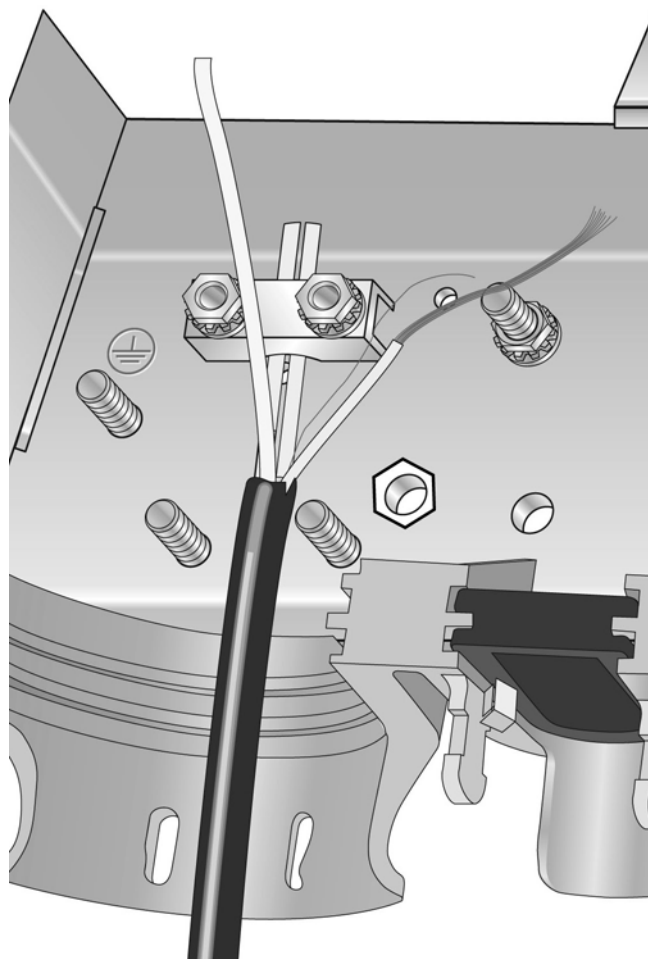

Figure 9. Positioning the Cable
10. Position the cable so that the strength members go under the strength member clamp and so that the jacket is about 0.25 in. (0.75 cm) beyond the drop cable clamp posts, as shown in Figure 9